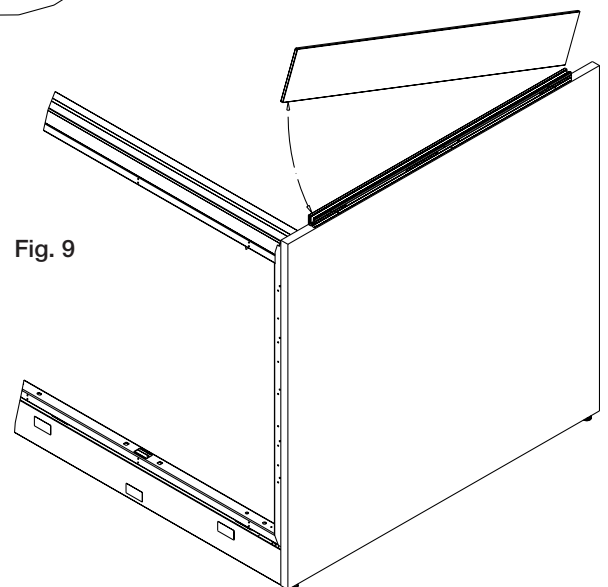

Fig. 9
9. Scissor the glass or PET in as shown (**Fig. 9**)